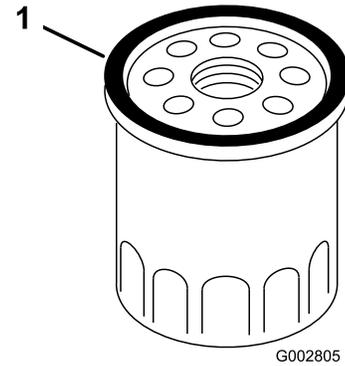

Figure 28
4. Use your finger to coat the gasket on the new filter with oil (Figure 28).